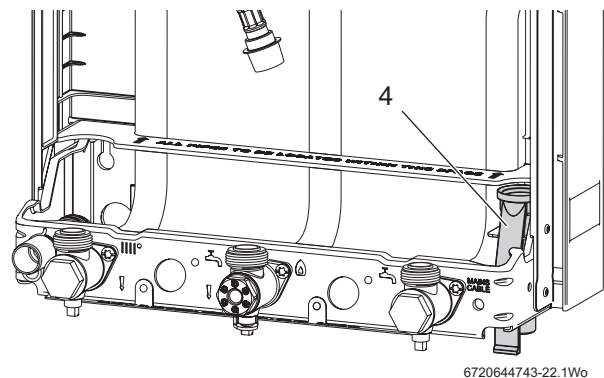

Fig. 54 Pressure relief drain pipe
- ▶ Referring to figure 54, check pressure relief drain pipe (1) is correctly fitted and securely tightened.